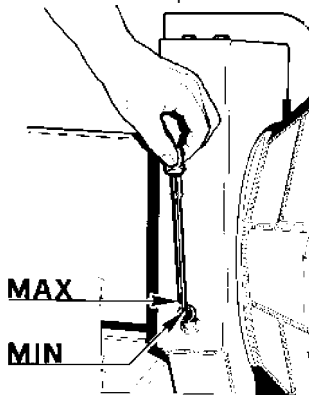

Fig.52
2. Once a month check the oil level of the speed reducer (fig.52). The chuck arm should be completely lowered when the check is performed.